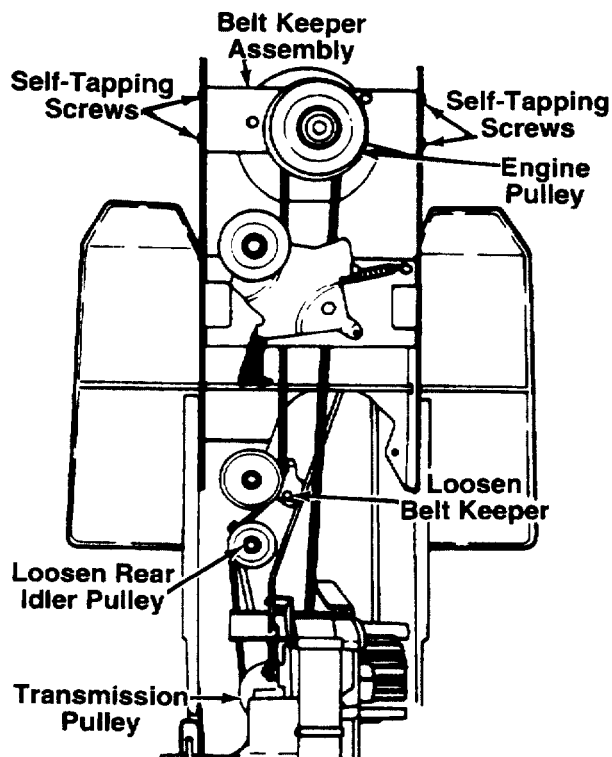

FIGURE 19.
### DRIVE BELT REPLACEMENT (See figure 19)
4. Remove the four self-tapping screws which hold the belt keeper assembly to the frame at the engine pulley. Push the belt keeper assembly forward, out of the way. See figure 19.